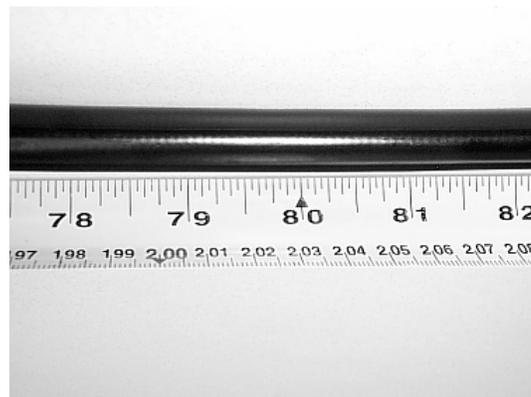

Figure 20 - Measure and mark the cable jacket for removal.
7.2 Consult the closure instructions to determine the length of cable jacket that must be removed for splicing. Measure and mark the cable at the appropriate length (Figure 20).